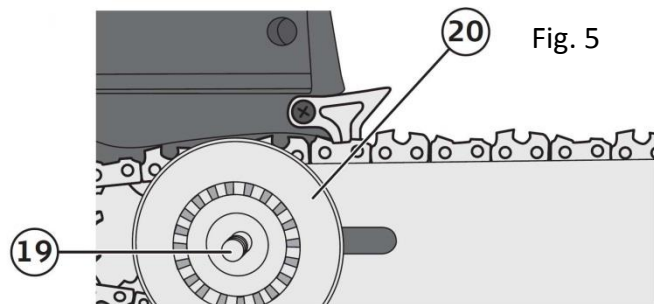

Fig. 5
1. Turn the centre locking knob (15) anticlockwise and remove the sprocket cover (14).
2. The guide bar has a tensioning wheel (20) fixed to it. Turn the guide bar so that the tensioning wheel is on the outside of the bar. Fit the bar in such a way that the bolt sticks through the hole in the tensioning wheel (see fig. 5).